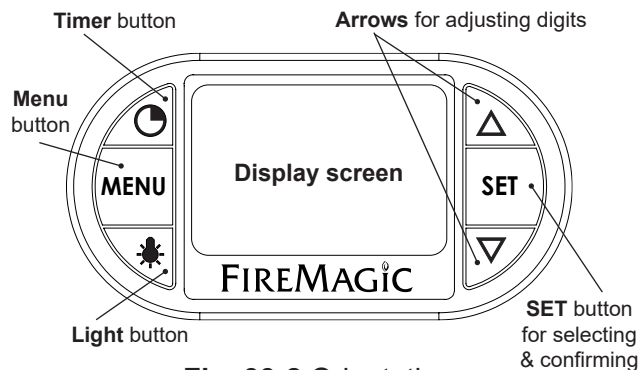

Fig. 33-2 Orientation
Read the following sections completely regarding thermometer operation. Refer to Fig. 33-2 for thermometer orientation and button locations.
1. Press the light button to turn both the interior oven lights and knob backlights **ON** (see Fig. 33-2). The interior oven lights will temporarily shut off when the hood is closed (except for Magic View models).